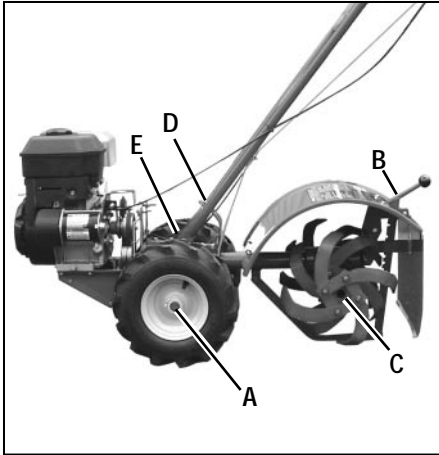

Figure 5-1: Lubrication points.
Proper lubrication of the tiller is an essential part of your maintenance program. After every 10 operating hours, oil or grease the lubrication points shown in Figure 5-1 as described below.
- Remove wheels, clean wheel shaft (A, Figure 5-1) and apply thin coating of grease to shaft.
- Grease back, front and sides of depth regulator lever (B, Figure 5-1).
- Remove tines, clean tine shafts (C, Figure 5-1) and inspect for rust, rough spots or burrs (especially around holes). File or sand smooth and coat ends of shaft with grease.
- Oil the threads on the handlebar height adjustment screw (D, Figure 5-1).
- Oil the threads on the handlebar attaching screws (E, Figure 5-1).